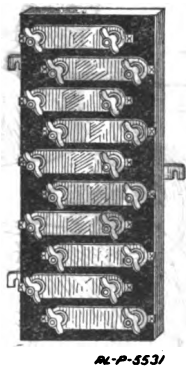

Fig. 2 - IG.—Terminal strip, type T. M. 84
**SAMPLE 3: *Directions.***—Fig. 2 - IG shows a terminal strip. Complete the connections in Fig. 2 - IG so that it will represent a test station for two trunk lines.